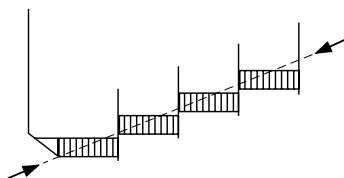

Figure 7. Sub Tint
7. Set the data with numeric keys 4 - 0 for waveform shown in Figure 7.